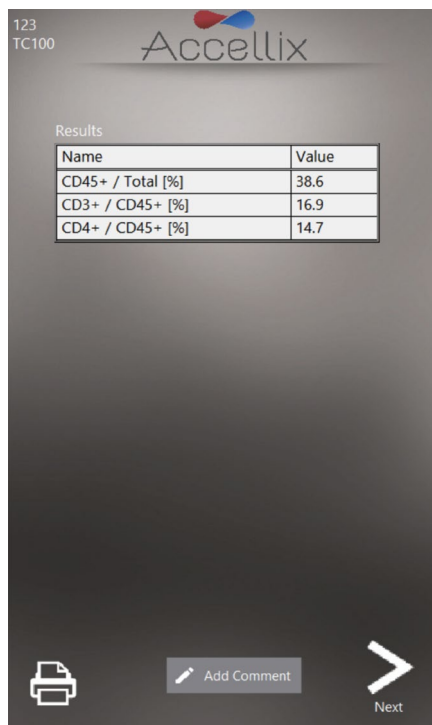

Figure 49: Example of on-screen Results report
- a. For an assay which produces an on-screen results report, e.g., T Cell RTF (L) Assay, a **Results** screen will be displayed on the screen at this point. See example of on-screen **Results** report in Figure 49.